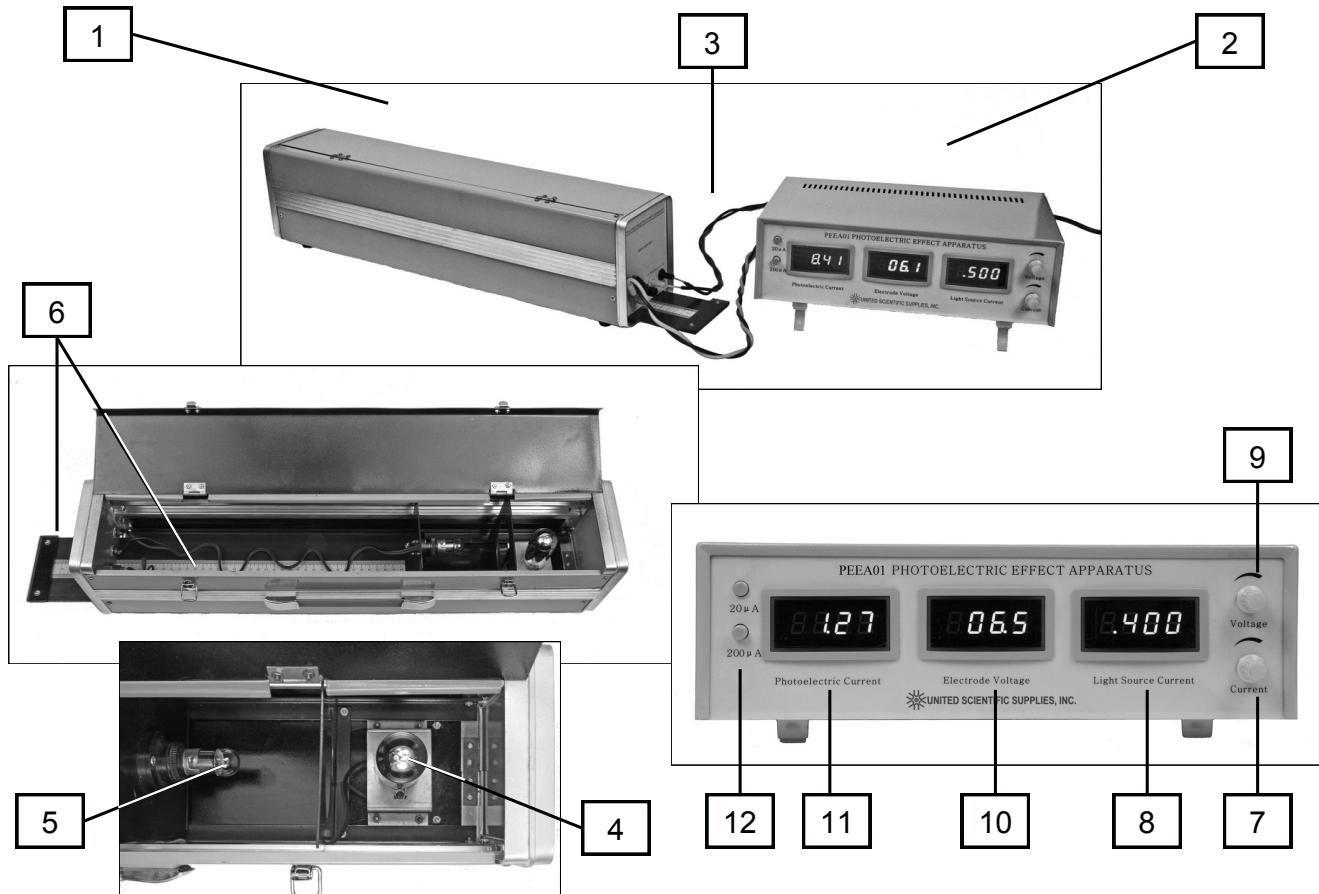

Figure 1
The Photoelectric Effect Apparatus allows the photoelectric emission from a mixed metal cathode in vacuum to be studied as a function of the illumination and the extraction voltage applied. It consists of a light-tight box (1, Figure 1) connected to a control and measurement unit (2) by shielded cables (3). The light-tight box contains a vacuum phototube (4) with a Cs/Sb cathode and a current-controlled incandescent lamp (5) mounted on a slide (6) that is operated from outside the closed box to vary the illumination of the phototube. The control and measurement unit contains a highly stabilized lamp power supply adjusted by a multi-turn potentiometer (7). The current is indicated on a three-digit display (8). A second, independent, highly stabilized voltage source, also controlled by a multi-turn potentiometer (9), applies a precise d.c. extraction voltage to the phototube electrodes. The applied voltage is indicated on a three-digit display (10). The resulting photocurrent is measured by a sensitive amplifier and indicated on a 3-1/2-digit display (11). The amplifier gain has two ranges, selected by a pair of pushbuttons (12).
- Set the lamp current potentiometer (7, *Figure 1*) to its minimum value and the extraction voltage potentiometer (9, *Figure 1*) to the approximate center of its range.
- Select the 20 μ A range for the photocurrent display (12, *Figure 1*).
- Pull out the lamp slide (6, *Figure 1*) until the 10 cm mark is visible at the end of the light tight box.
- One investigation requires the distance r between the lamp filament and the tube's photocathode to be measured. The scale on the slide (6, *Figure 1*) is used for this purpose.